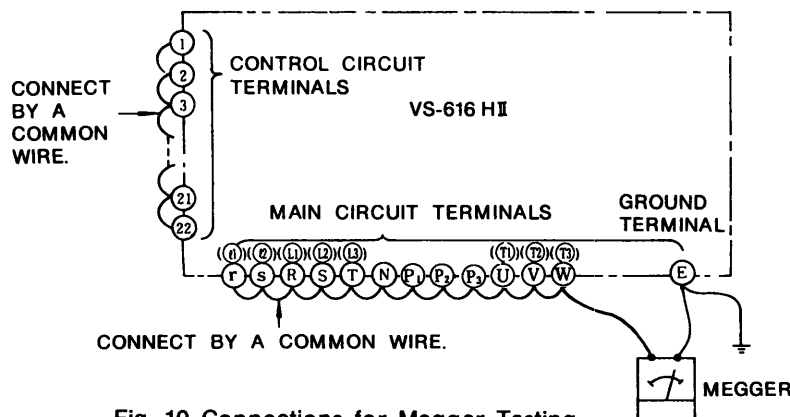

Fig. 10 Connections for Megger Testing
Connect the AC input, output terminals (r)(L1), (s)(L2), (R)(L1), (S)(L2), (T)(L3), (N), (P1, P2, P3), (U)(T1), (V)(T2), and (W)(T3), by a common wire, and connect the control terminals ① - ②② (excluding ④, ⑪, ⑲) by a common wire as shown in Fig. 10. After that, measure the insulation resistance between the common wire of input/output terminals and ground with a megger. Never measure the insulation resistance of circuit other than main circuit (power line). For both the input and output terminals, a reading above  $1M\Omega$  is considered satisfactory.